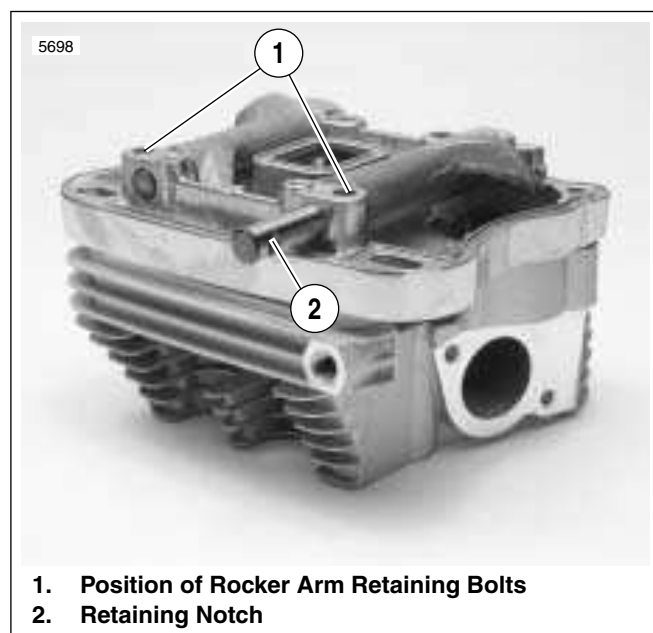

Figure 3-7. Removing Rocker Arm Shafts
7. See Figure 3-7. Remove rocker arm shafts by tapping them out using a hammer and a soft metal punch.